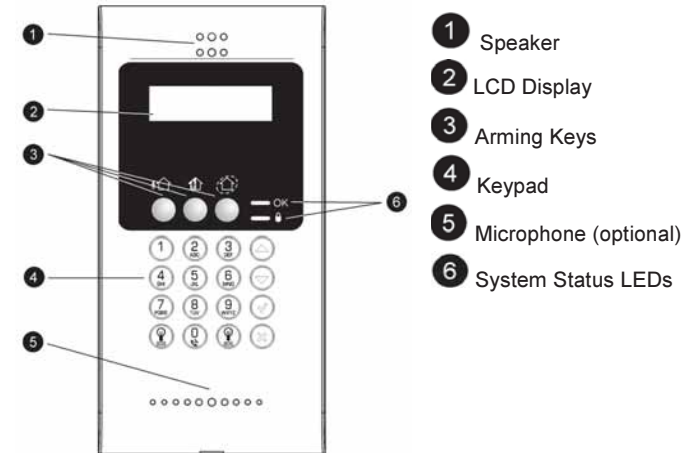

Figure 1
1. Before mounting the keypad test the keypad communication with the system. To do so, try to arm the system using one of the arming buttons on the wireless keypad (see Figure 1).